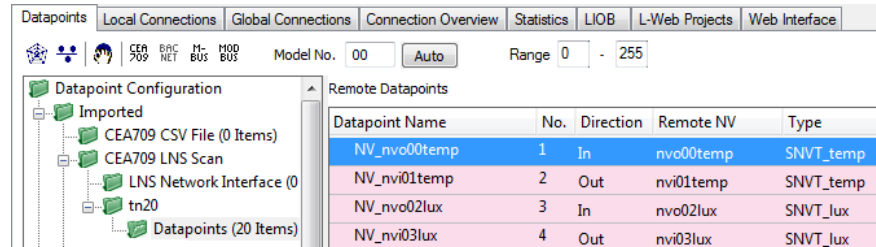

Figure 9: Result of an NV scan in LNS.
7. After the scan has completed, the folder **LNS Database Scan** is populated with the found NVs as shown in Figure 9. For detailed information refer to Section 6.7.2.